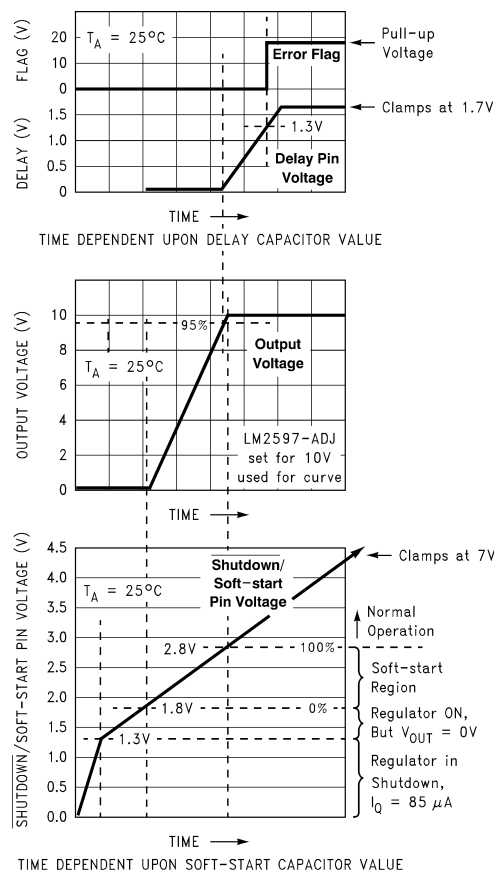
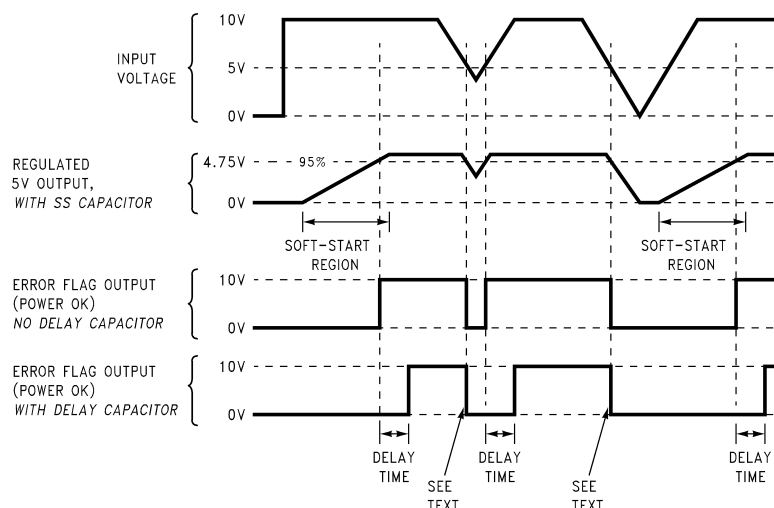

Figure 13. Soft-start, Delay, Error, Output
Figure 14. Timing Diagram for 5V Output
C_{SS} —A capacitor on this pin provides the regulator with a Soft-start feature (slow start-up). When the DC input voltage is first applied to the regulator, or when the Shutdown /Soft-start pin is allowed to go high, a constant current (approximately 5 μA begins charging this capacitor). As the capacitor voltage rises, the regulator goes through four operating regions (See the bottom curve in Figure 13).
3. Soft-start Region. When the $\overline{SD}$ /SS pin voltage is between 1.8V and 2.8V (@ 25°C), the regulator is in a Soft-start condition. The switch (Pin 8) duty cycle initially starts out very low, with narrow pulses and gradually get wider as the capacitor $\overline{SD}$ /SS pin ramps up towards 2.8V. As the duty cycle increases, the output voltage also increases at a controlled ramp up. See the center curve in Figure 13. The input supply current requirement also starts out at a low level for the narrow pulses and ramp up in a controlled manner. This is a very useful feature in some switcher topologies that require large startup currents (such as the inverting configuration) which can load down the input power supply.
The lower curve shown in Figure 13 shows the Soft-start region from 0% to 100%. This is not the duty cycle percentage, but the output voltage percentage. Also, the Soft-start voltage range has a negative temperature coefficient associated with it. See the Soft-start curve in the electrical characteristics section.
C_{DELAY} —Provides delay for the error flag output. See the upper curve in Figure 13, and also refer to timing diagrams in Figure 14. A capacitor on this pin provides a time delay between the time the regulated output voltage (when it is increasing in value) reaches 95% of the nominal output voltage, and the time the error flag output goes high. A 3 μ A constant current from the delay pin charges the delay capacitor resulting in a voltage ramp. When this voltage reaches a threshold of approximately 1.3V, the open collector error flag output (or power OK) goes high. This signal can be used to indicate that the regulated output has reached the correct voltage and has stabilized.